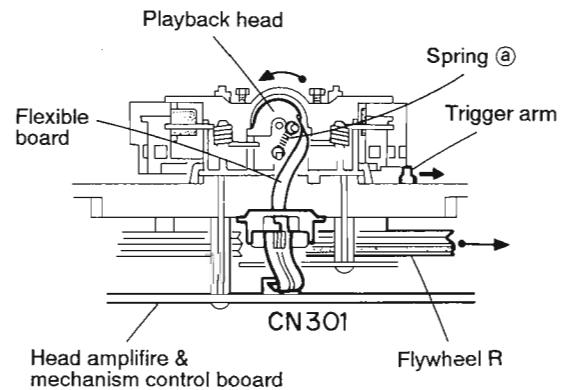
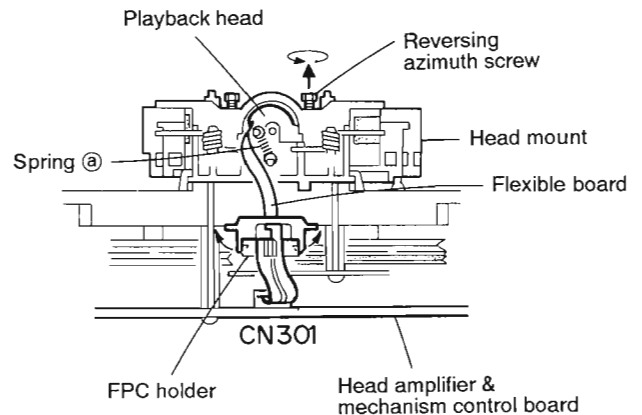

Fig.3-25 (Mechanism A side)
Fig.3-26 (Mechanism B side)
2. When the flywheel R is rotated in counterclockwise direction,the playback head will be turned in counterclockwise direction from the position in Fig.3-25 to that in Fig.3-26.
■ Reassembling the Playback,Recording and Eraser Heads (See Fig.3-26)
1. Reassemble the playback head from the front of the head mount to the position as shown in Fig.3-26.
4. Attach the flexible P.C.board to the chassis base,and fix it with the FPC holder as shown in Fig.3-26.